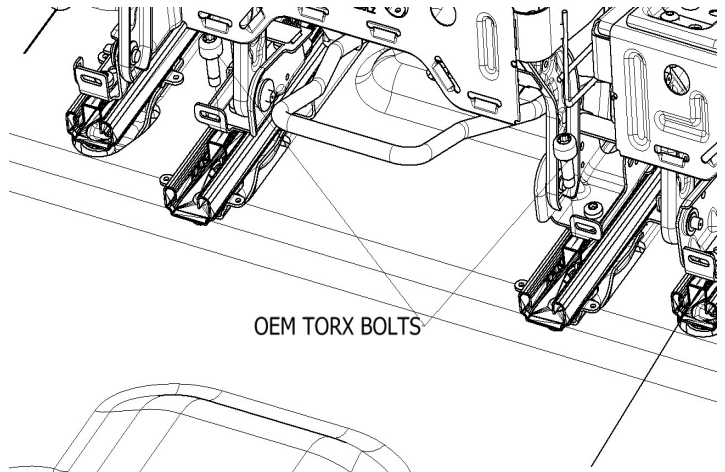

FIGURE 2A
- B. Using torx bit, remove 2 bolts securing front of slider rails for the middle seat (1 bolt per rail). These bolts will NOT be reused. (Fig. 2A).